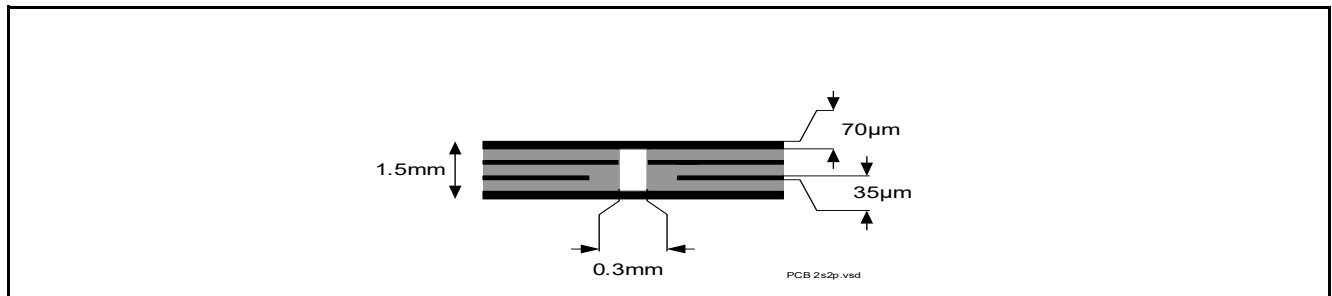

Figure 4 2s2p PCB Cross Section
- 2) Specified R_{thJA} value is according to JEDEC JESD51-2,-5,-7 at natural convection on FR4 2s2p board with 1 W power dissipation at $T_A=105^\circ\text{C}$; The product (chip + package) was simulated on a 76.4 x 114.3 x 1.5 mm board with 2 inner copper layers (2 x 7 μm Cu, 2 x 35 μm Cu). Where applicable, a thermal via array under the exposed pad contacts the first inner copper layer. Please refer to Figure 4.